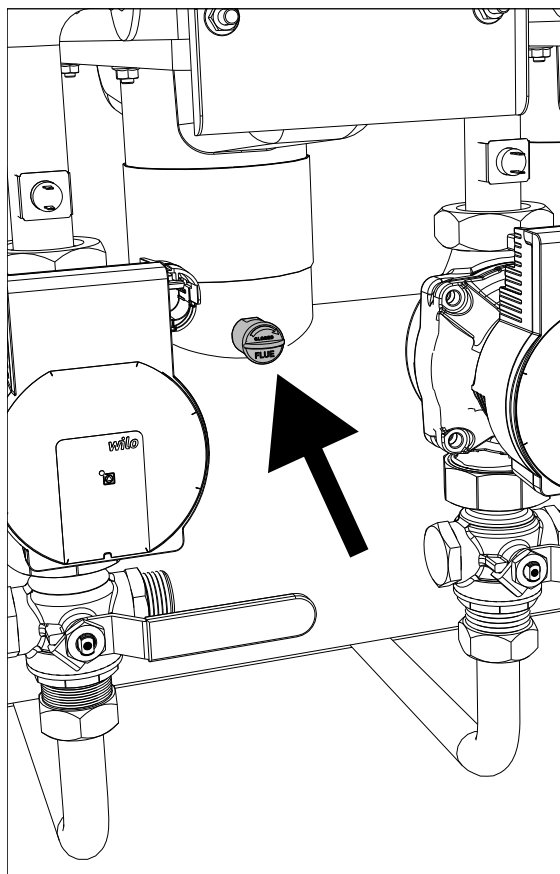

fig. 93- Single module fumes outlet
The sampling of combustion fumes must be done by inserting the analyzer probe into the fumes outlet of the single module (see fig. 93).
- Insert a combustion analysis instrument in the fumes outlet (see fig. 93).